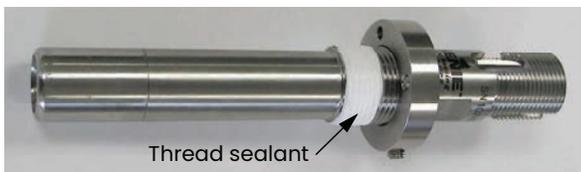

Figure 11: Applying thread sealant
1. Turn the locking mechanism counter-clockwise until it is at its extreme upper position. Apply thread sealant to the threaded area below vertical slots in the threads (see *Figure 11* below). Do not allow the thread sealant to enter the slot, as it may interfere with the mechanism.